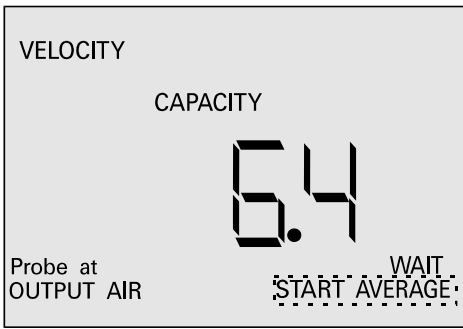

Fig.17
5.7 Press ENTER "WAIT" will flash (fig.17) Place the probe in
front of the units outlet. Pay attention that the sensor's cover is facing the Grill no need to move it. The M4000 is waiting until sensors will be stable with the new temp. and hum. (about 90 seconds) when "START AVERAGE" will flash (fig. 17) go to 5.8